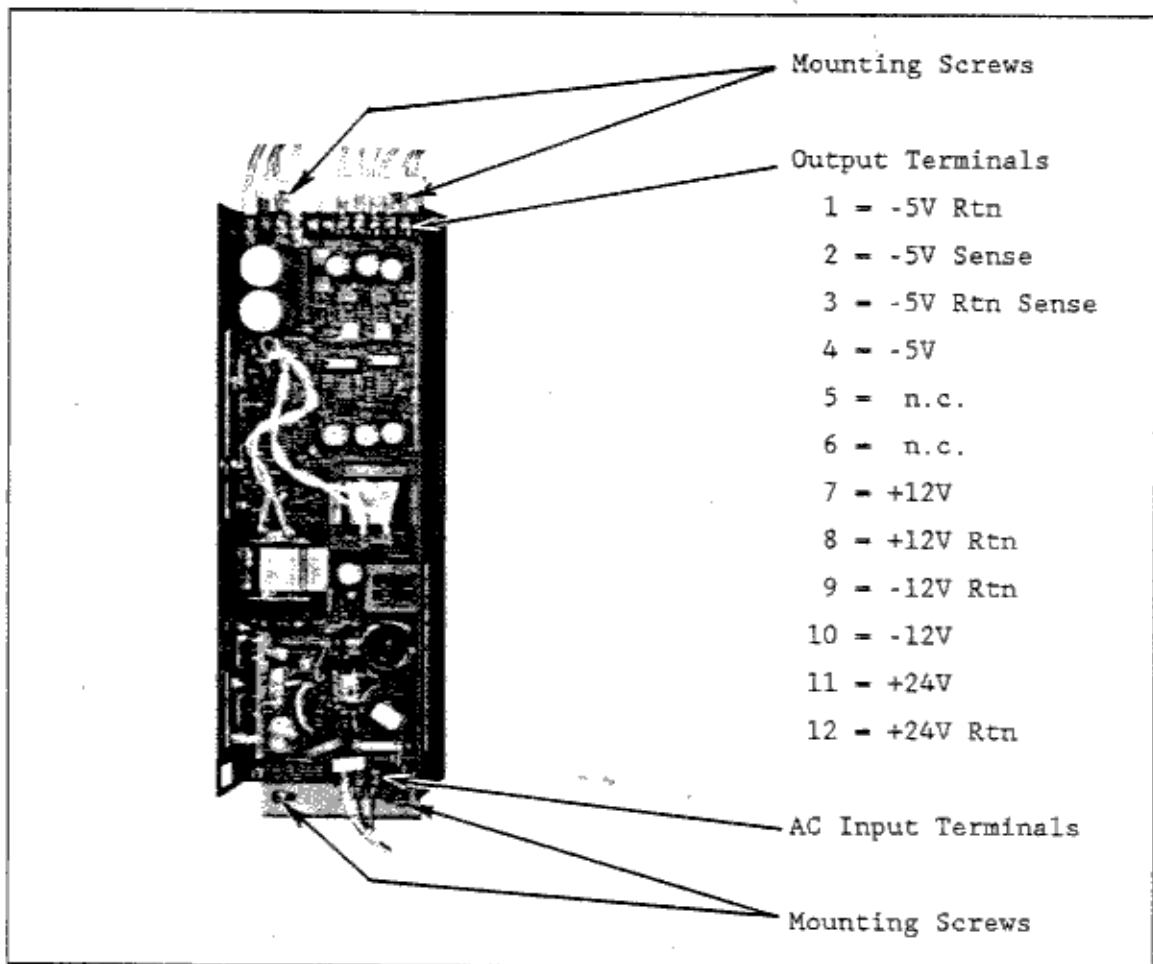

FIGURE 5-4 -5V,+/-12V,+24V POWER SUPPLY
2. Referring to Figure 5-4, locate and disconnect three input leads (black, white, green, at the bottom) and 10 output leads (terminals 1-4, 7-12, at the top) from the supply.